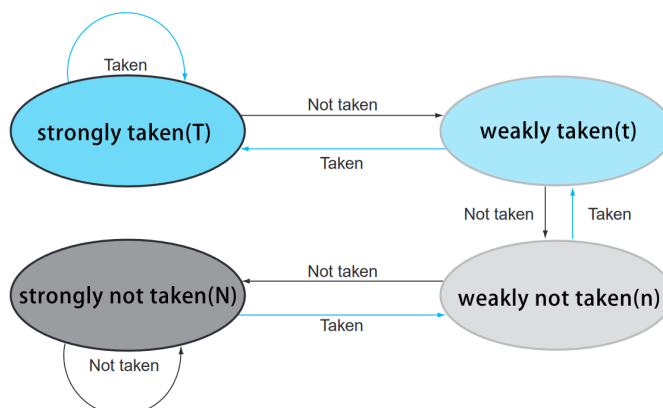

Figure 1: The states in a 2-bit prediction scheme.
3. **Bimodal Predictor:** The simplest dynamic branch direction predictor is an array of 2^n two-bit saturating counters. Each counter includes one of four values: **strongly taken (T)**, **weakly taken (t)**, **weakly not taken (n)**, and **strongly not taken (N)**. The state diagram of the counter is shown in Figure 1.